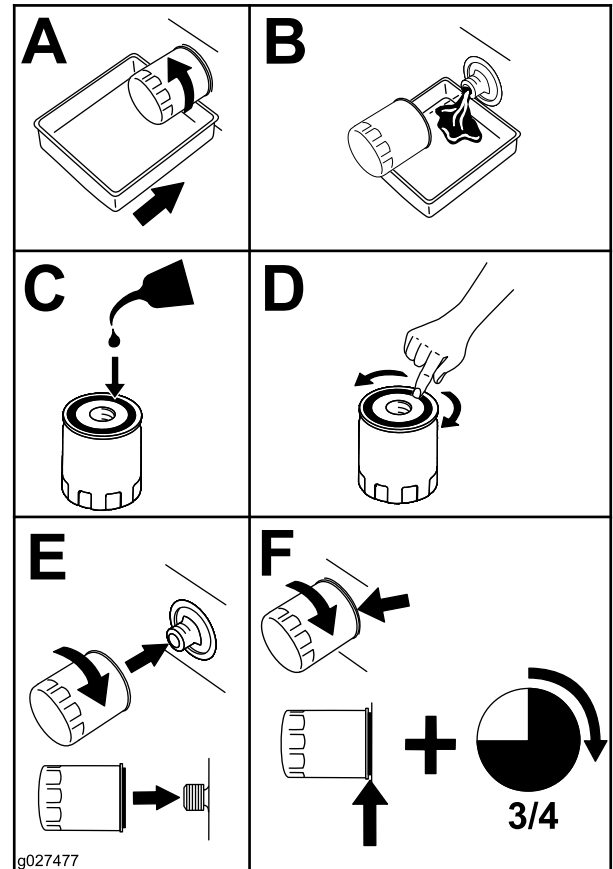

Figure 24
6. Change the engine-oil filter as shown in Figure 24.